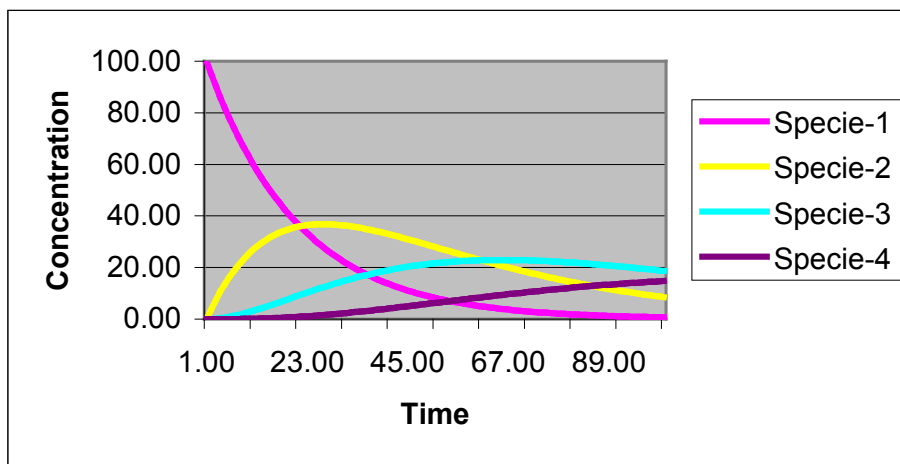

Figure 1. Sample output from the BATCHRXN code for the sample problem.
After reading the input, BATCHRXN will execute and create an output file called batchrxn.out. The output file will contain a set of white-space separated ASCII data in column format (written using the Format statement 21E15.5). For our example problem, five columns are output: Time, specie-1 (PCE), specie-2 (TCE), specie-3 (DCE), and specie-4 (VC). Use any spreadsheet software such as *Excel* to plot and analyze this output data. The BATCHRXN output results for the example problem are shown in Figure 1.